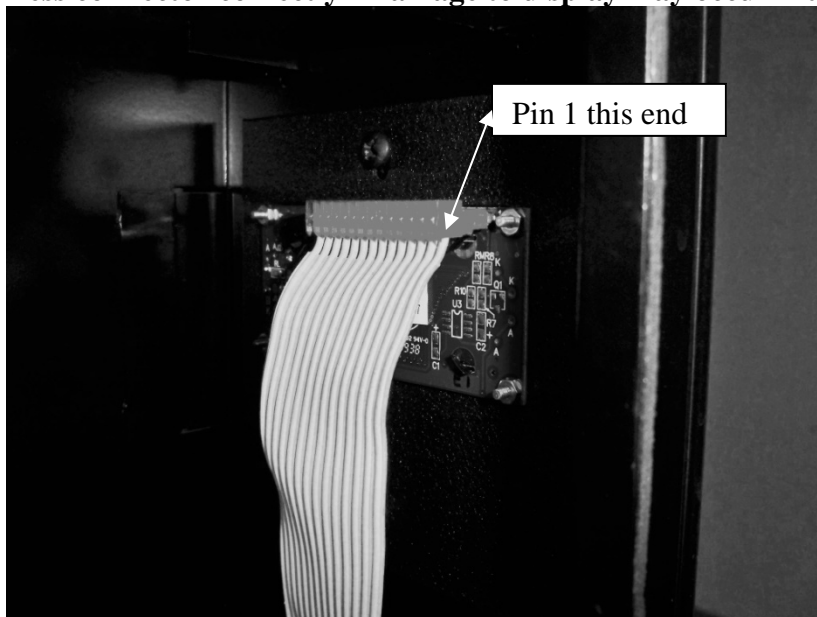

Figure 14
11. Connect the new display harness (11-0205-21) to display as shown in figure 14. **Make sure the pin 1 end of the cable is connected to the pin 1 end of the display header and all 16 pins are inserted into harness connector correctly - Damage to display may occur if this is not done!**